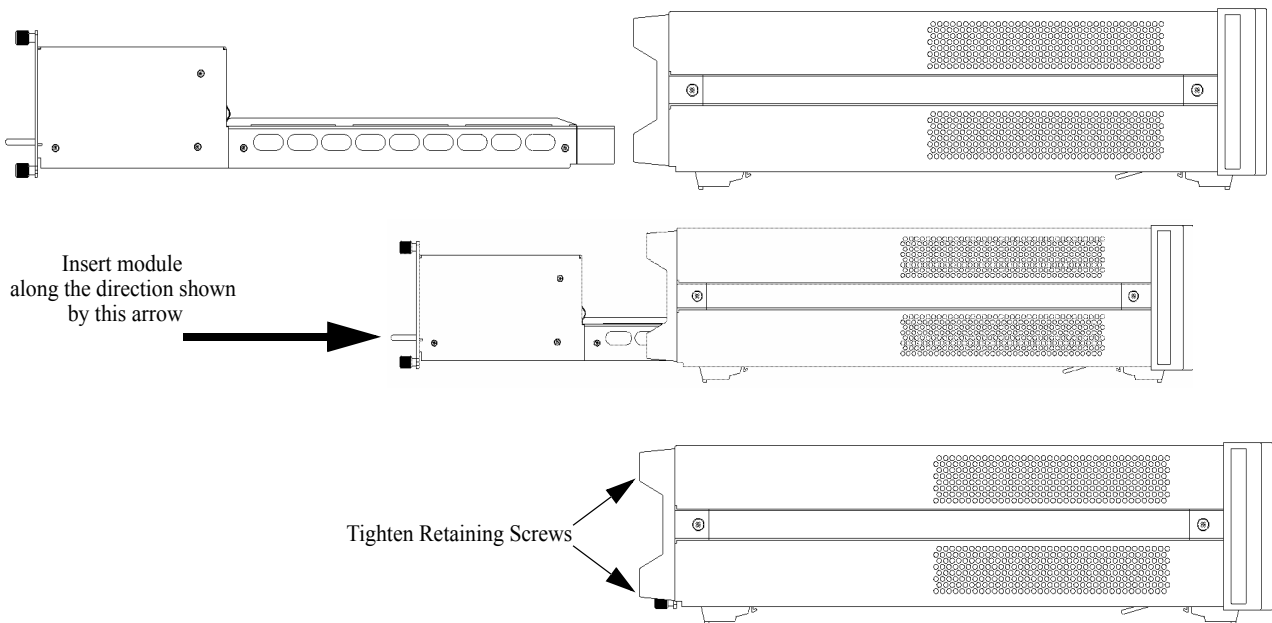

Figure 208 Fitting a Back-Loadable Module
- 1 Position the module at the rear of the instrument as shown in Figure 208 on page -332.
If you insert the module at an angle or vertically, you may damage the instrument and the module. You should insert the module along the direction shown by the arrow in Figure 208 on page -332.